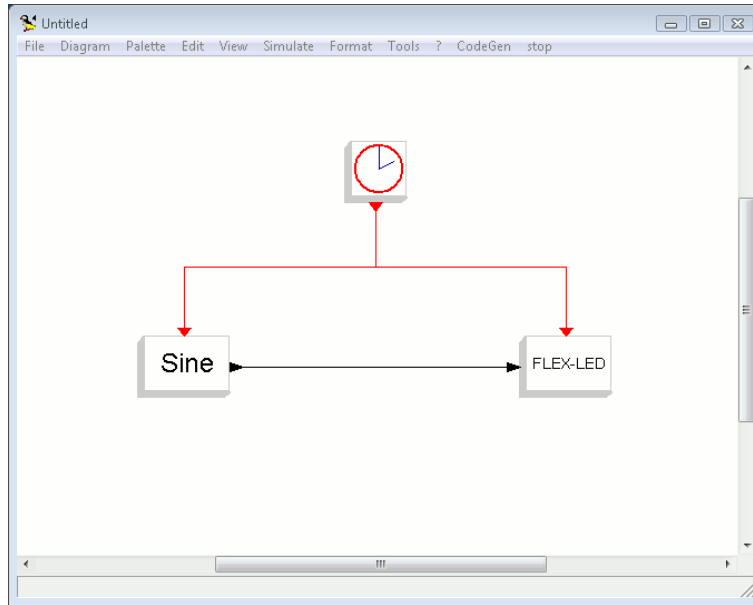

Figure 5.10: The `clock` block is connected to the `Sine` and `LED` blocks.
11. Now connect the clock signal to the two blocks. To do that, single click on the red triangle of the `clock` block, then single click below it, then single click over the `Sine` block, then click on the red triangle of the `Sine` block. After that, single click on the line below the `clock` block, then over the `LED` block, then on the red triangle of the `LED` block. The result is shown in Figure 5.10